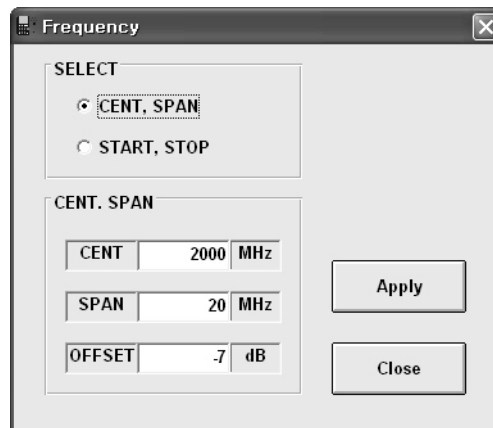

Figure 3.3. The window of set frequency
- 4) Refer the Figure 3.3. Set frequency and 4.2.3 Set frequency